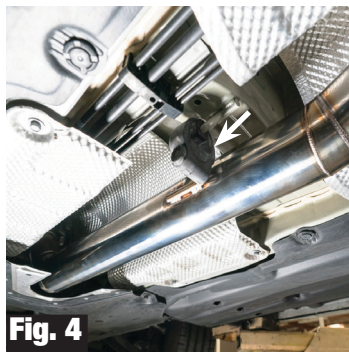

Fig. 4
1. Lubricate the rubber insulator towards the front of the vehicle and the hanger on the front pipe (Fig. 4). Replace the gasket with the included triangle gasket. Bolt the three nuts of the front pipe to the triangle flange (Fig. 5). Insert the front pipe hanger into the rubber insulator.